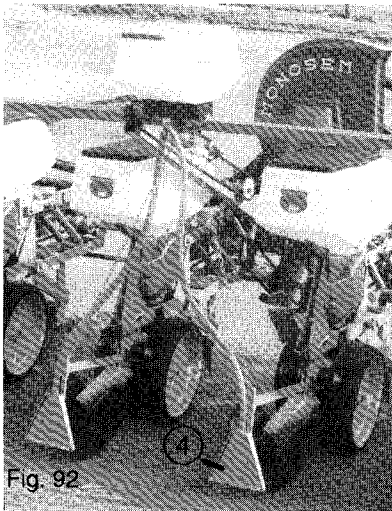

Fig. 92
- Fig. 92 for spreader assembly for localized treatment (narrow).
The general herbicide applicator for localized treatment has one hopper for each 2 rows (fig. 92) and one narrow spreader for each row (4). The chain assembly allows the sprocket support bracket to articulate when the planter is raised.
Make sure that the metering boxes are similar to those in fig. 92 (shape of the hoppers and direction of the outlets.)